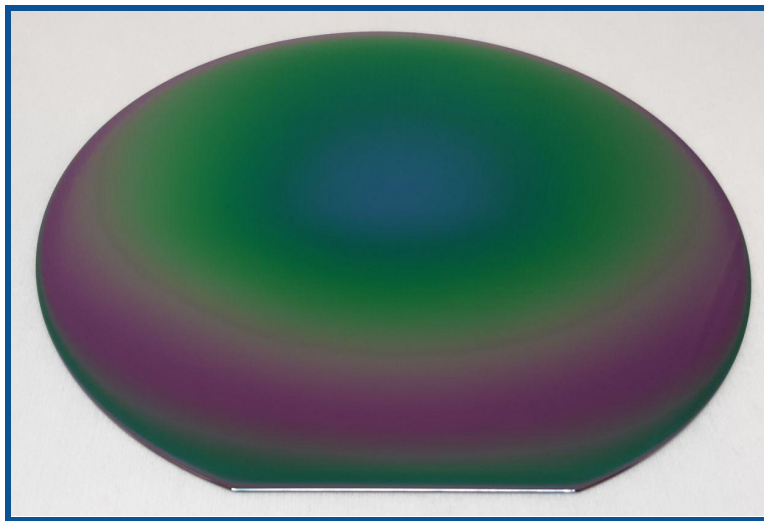

Figure 2: a wafer with a moderate amount of non-uniformity (5.4%)
9.2 Figures 2 through 11 show FTIR spectra for a SiOx film generated with each standard recipe for 5 minutes